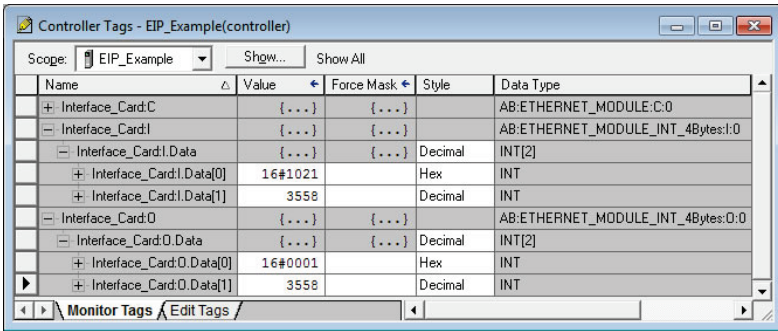

Figure 56: Controller Tags for I/O Access
- 8) By double-clicking "Controller Tags" in the project tree, it is possible to view the newly-added tags. Refer to Figure 56. The Interface_Card:C configuration tag is unused, the Interface_Card:I tag allows viewing of the input data, and the Interface_Card:O tag allows modification of the output data. These tags will be synchronized with the inverter at whatever rate was established for the module's RPI.
- 9) By double-clicking "Controller Tags" in the project tree, it is possible to view the newly-added tags. Refer to Figure 56. The Interface_Card:C configuration tag is unused, the Interface_Card:I tag allows viewing of the input data, and the Interface_Card:O tag allows modification of the output data. These tags will be synchronized with the inverter at whatever rate was established for the module's RPI.
We can directly interact with these tags in order to control and monitor the inverter. In Figure 56, for example, we can see that the first 16-bit word of output data (Interface_Card:O.Data[0]) has been set to a hexadecimal value of 0x0001. The default consumed data word configuration word offset 0 references function code S06, which is the inverter's command register. A value of 0x0001, therefore, means that the FWD (run forward) bit has been turned ON.